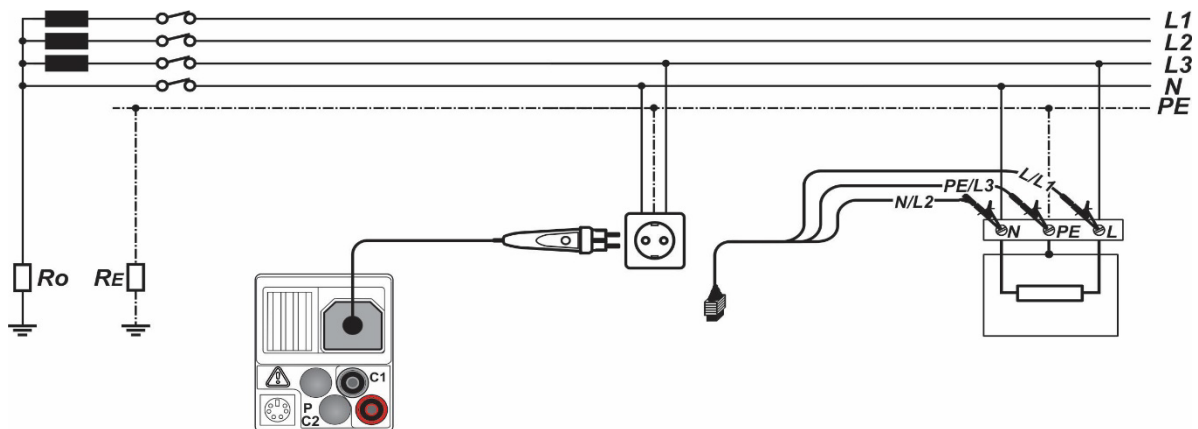

Figure 5.24: Connection of the optional "Commander" test plug (044149) and the three-wire test cable - Figure using the IT 130 as an example
- ❑ Connect the test cables to the test object (see figure 5.24).